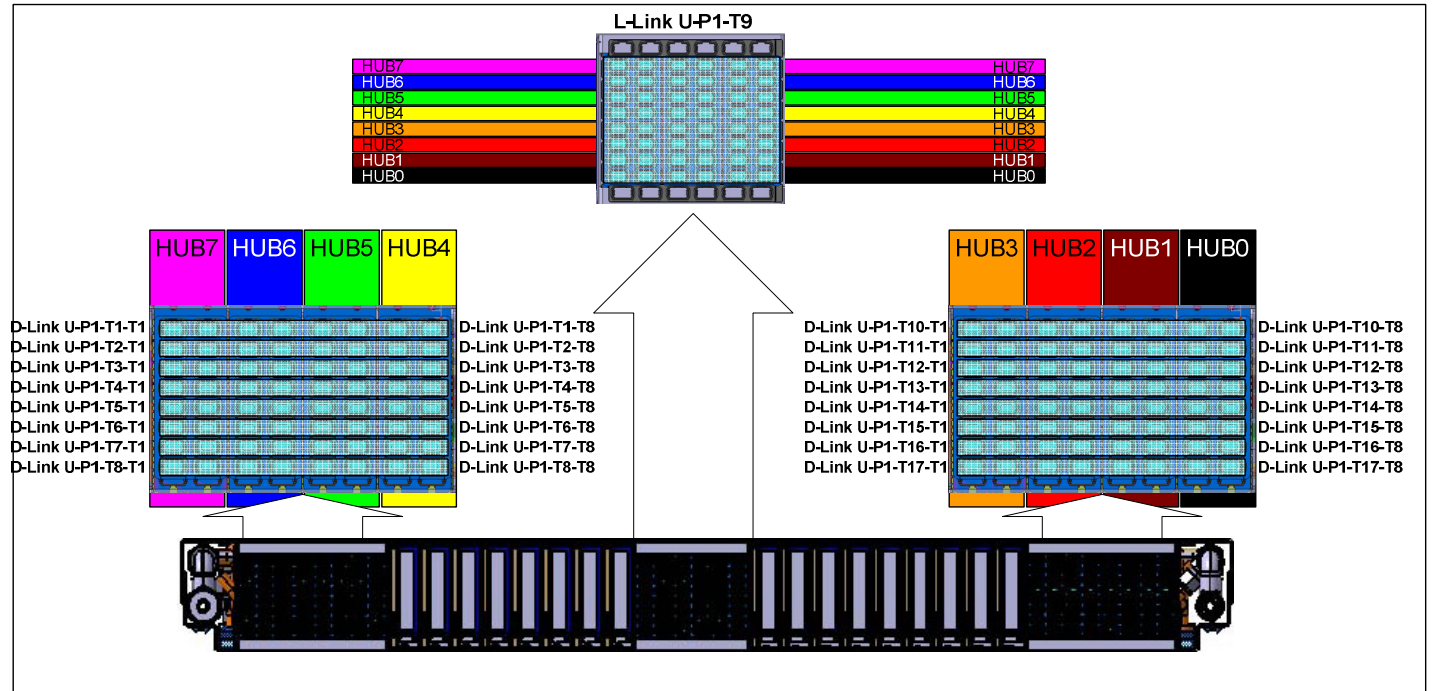

Figure 13 Location Codes for D-Link and L-Link assemblies
(See Figure 13 for the location codes for the D-Links and the L-Link backplane assembly)
STEP 23 Disconnect the L-Links from the CEC Drawer being serviced if present. (some CEC Drawer will not have L-Links). Refer to Figure 13 above. (It is important to note that we must take every precaution to ensure that the L link do not get dirt, dust or other debris on them)